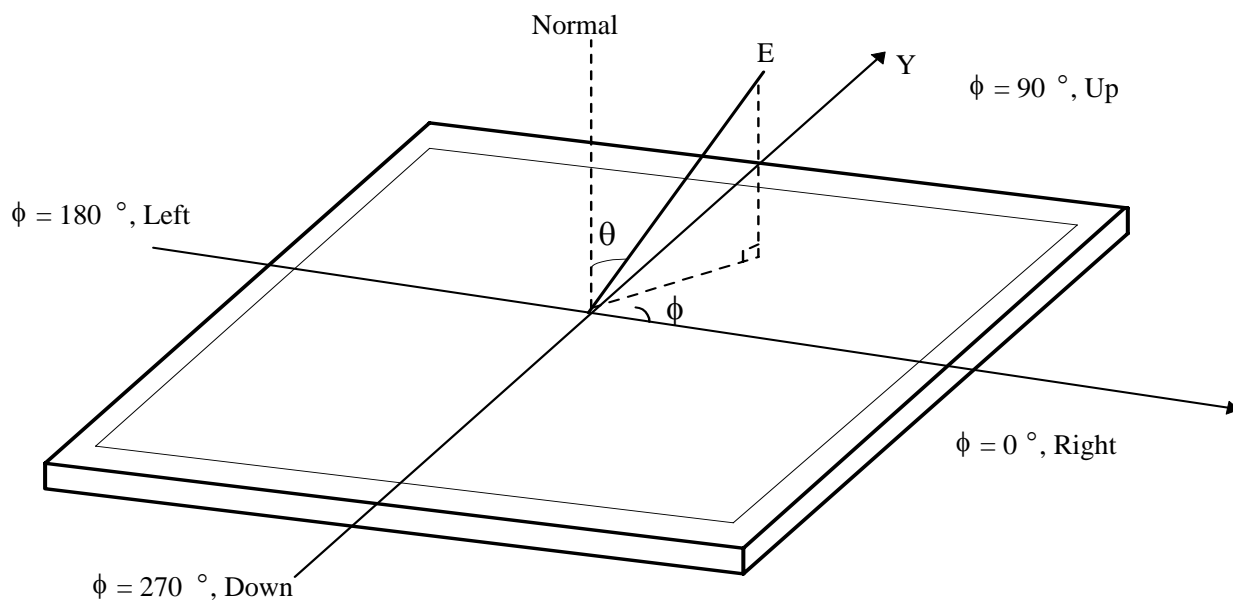

FIG. 4 Viewing angle
5. Viewing angle is the angle at which the contrast ratio is greater than 10. The angles are determined for the horizontal or x axis and the vertical or y axis with respect to the z axis which is normal to the LCD surface. For more information, see FIG 4.